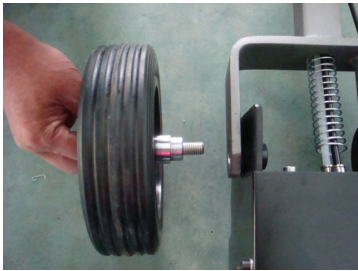

Fig. 05
- Screw back the wheels, Fig.05.